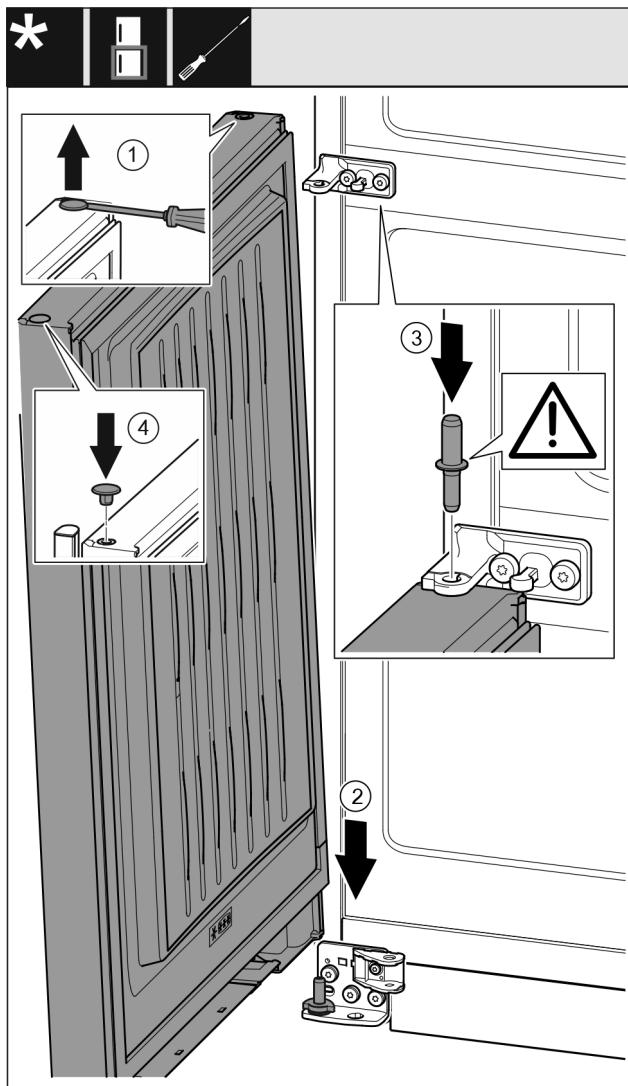

Fig. 44
- Carefully lift the plug *Fig. 44 (1)* with a slotted screwdriver and pull it out.
- Fit the door *Fig. 44 (2)* onto the lower bearing pin from the top.
- Insert the center bearing bolt *Fig. 44 (3)* through the center swap bearing block into the bottom door. In the process, make sure that the latching cam shows towards the rear.
- Reinsert the plug *Fig. 44 (4)* on the other side of the door.